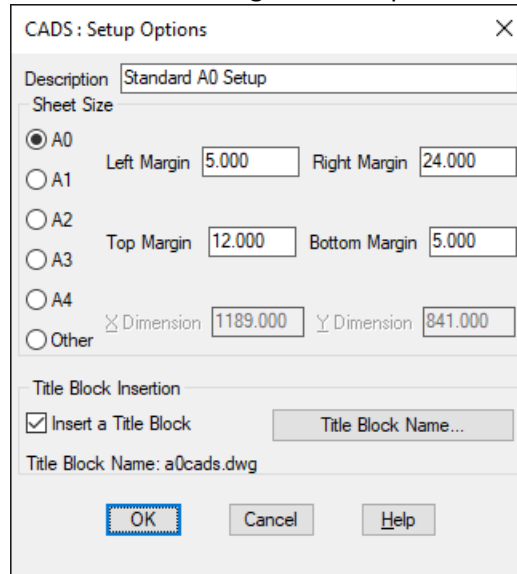

Figure 2.6:1 Setup Options Dialogue Box
The CADS Setup Utility dialogue box has a Redefine button which opens a further dialogue box (the CADS Setup Options dialogue box-Figure 2.6:1) in which you can alter the settings to suit your own requirements. If an existing setting is highlighted, then its data will appear in the dialogue box ready for editing as described in “Setting up the options”.
Whether you are redefining an exiting setup or creating a new one, the options are selected from the CADS Setup Options dialogue box shown in Figure 2.6:1 and described in the following paragraphs: -
- ▶ To ensure that the setup will be for Normal Mode, you can check this option's current settings by picking the Redefine button. This will access the CADS Setup Options dialogue box as shown in Figure 2.6:1. You should ensure that the current settings do not have the Paper Space Setup activated i.e. the check box does not have an X in it. Once you are happy with the settings, exit the dialogue box via the OK button;
- ▶ To ensure that the setup will be for Fast Mode, check this option's current settings by picking the redefine button. This will access the CADS: Setup Options dialogue box as shown in Figure 2.6:1. Ensure that the current settings have the Paper Space Setup activated, i.e. the check box has an X in it. Once you are happy with the settings, exit the dialogue box using the OK button.